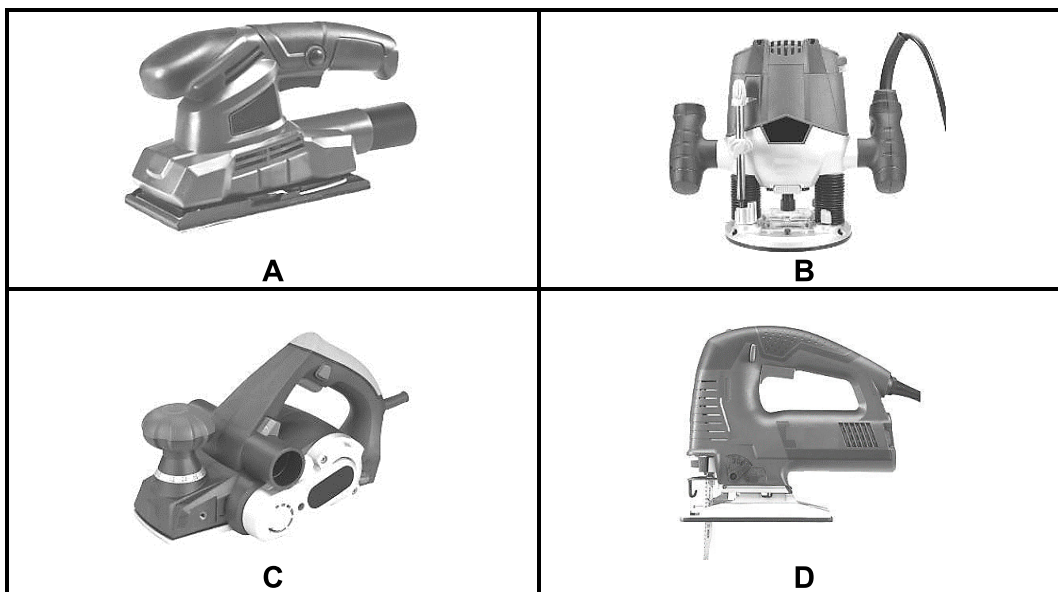

FIGURE 4.11
4.11 FIGURE 4.11 below shows four machines. Study the pictures and answer the questions that follow.